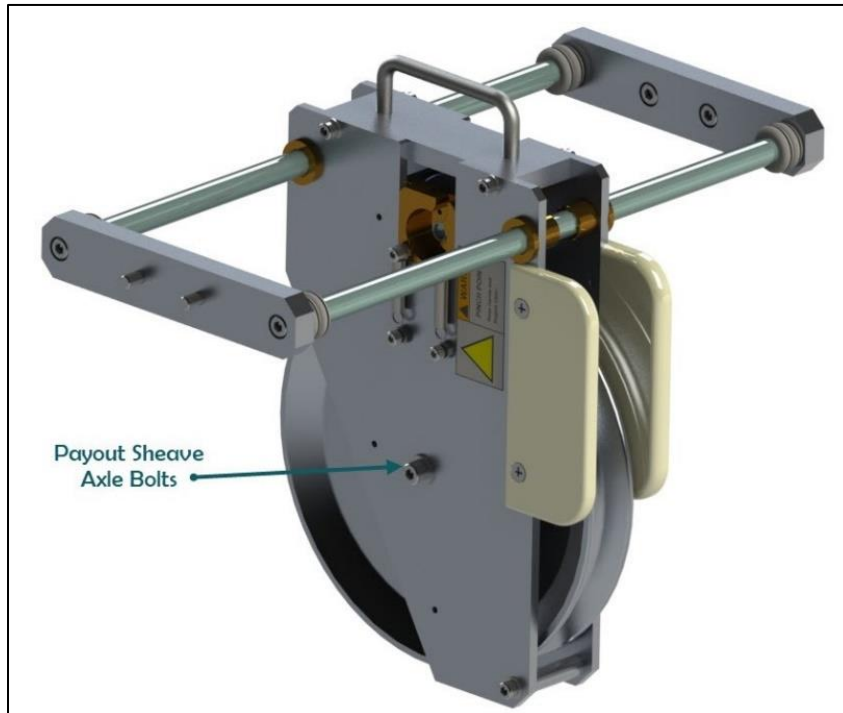

FIGURE 22: MANUAL LEVEL WIND SHEAVE TETHER REMOVAL
- ii. Remove the sheave's left and right axle bolts. See Figure 22 below.